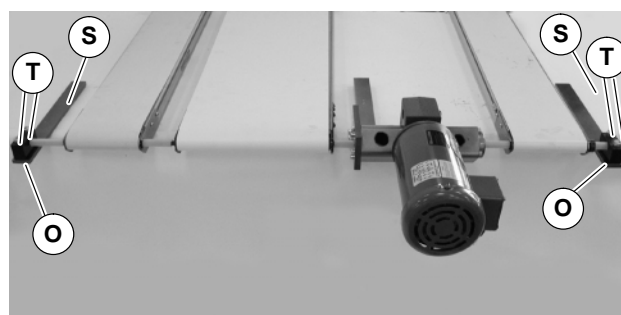

Figure 22
16. Attach bearing blocks (O of Figure 22) to bearing support bars (S) with screws (T). Tighten screws (T) to 45.5Nm.